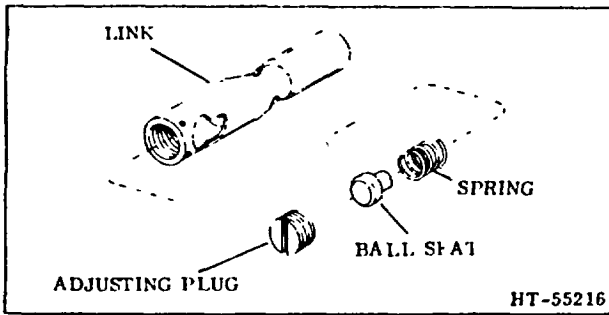

Figure 7. Drag Link Components
5. Unscrew drag link (Figure 7) from cylinder.